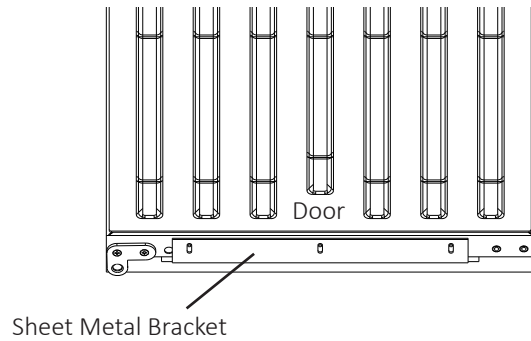

Fig. 15
- 3) Adjust the sheet metal bracket so that it is flush with the bottom of the door (See Fig. 15).